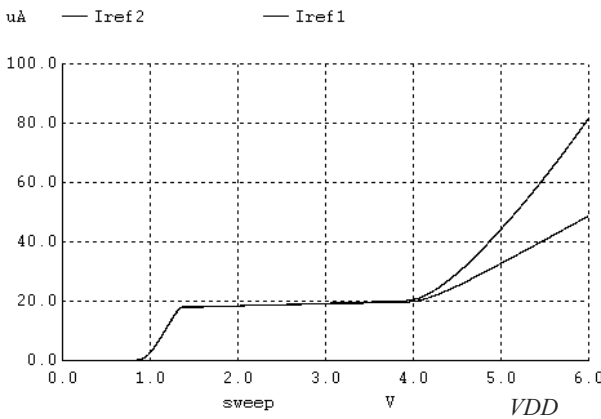

Figure 20.54 Problems with reference current increasing with V_{DD} .
- 20.8** Suppose that the bias circuit used to generate Fig. 20.16 shows a reference current change with V_{DD} , as seen in Fig. 20.54. Knowing that the reference current should be constant with changes in V_{DD} , what is wrong with the reference? (What important portion of the reference is causing the problem?)